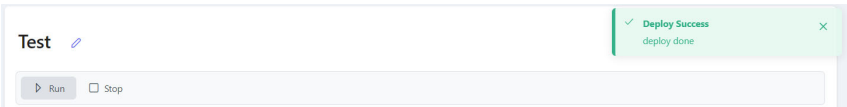

Figure 3-15: Run and Deploy
5. **Run and Deploy:** Click **Run** and wait for the deployment to finish. (See Figure 3-15)
4. **Run and Deploy:** Click **Run** and wait for the deployment to finish. (See Figure 3-15)